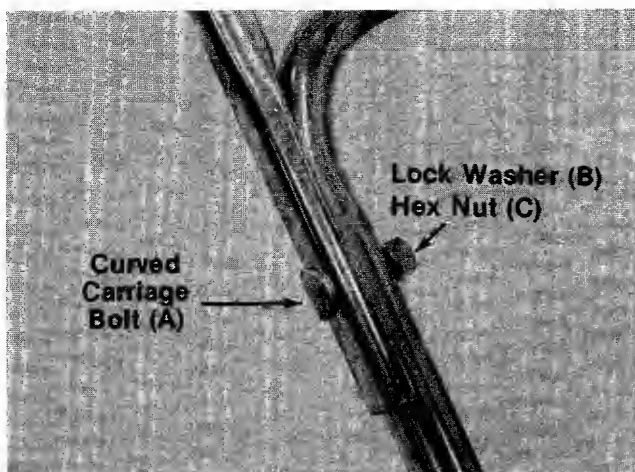

FIGURE 4.
5. Place upper handle in position over lower handle. Control housing should be on the left side of the handle. Secure upper handle with two curved head carriage bolts (A), lock washers (B) and hex nuts (C). See figure 4.